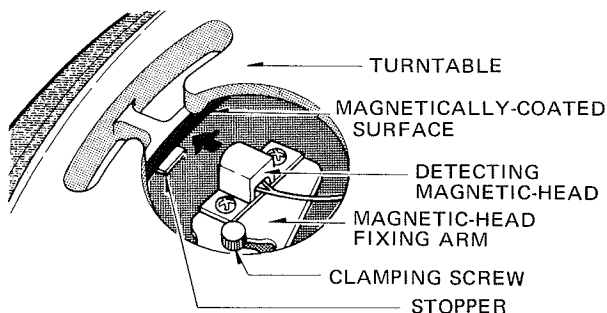

Fig. 4
6. Fit the turntable to the tapered-part of the motor shaft (center spindle). Do it gently after making it sure that the tapered surface is clean without dust and that the detecting magnetic-head is retracted as shown in figure 4.